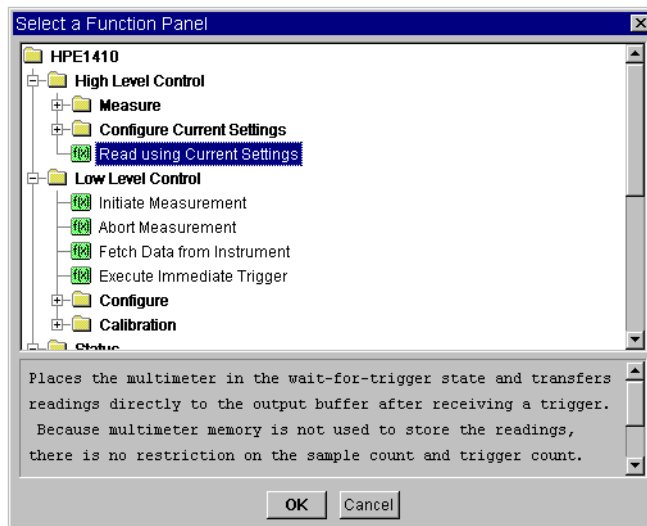

Figure 7-2. Select a Function Panel Dialog Box
1. Double-click an empty transaction or select Add Trans or Insert Trans from the object menu. The Select a Function Panel dialog box appears. It displays function panels grouped into logical categories, such as Measure or Configure, as shown in Figure 7-2. Each driver has different categories.